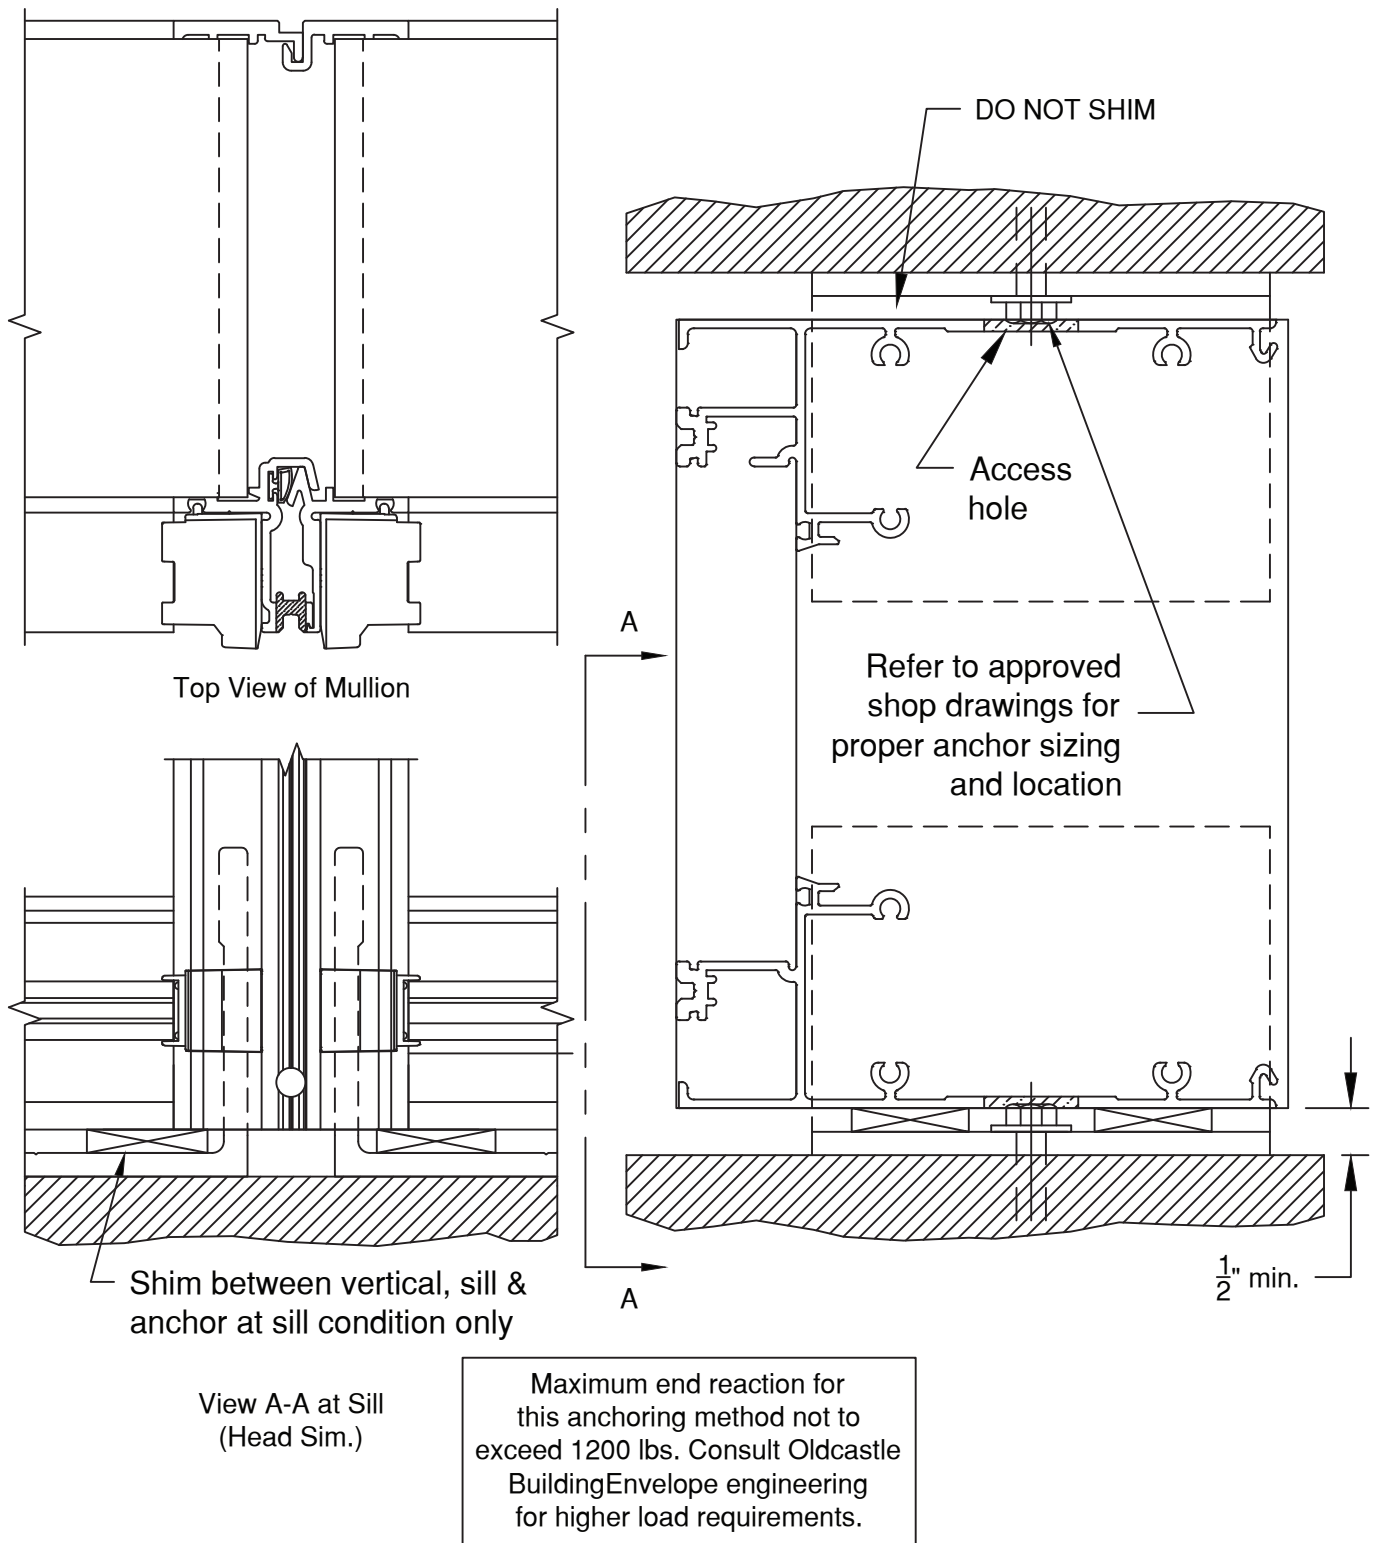

FIGURE 16
3.1 Reliance-SS can be anchored to the building condition by either hard fastening directly through the head/sill member (**FIGURE 15**) or slide-in mullion anchors that fit inside the vertical mullions (**FIGURE 16**). If using the slide-in anchors, install into ends of mullions prior to erecting the frame.